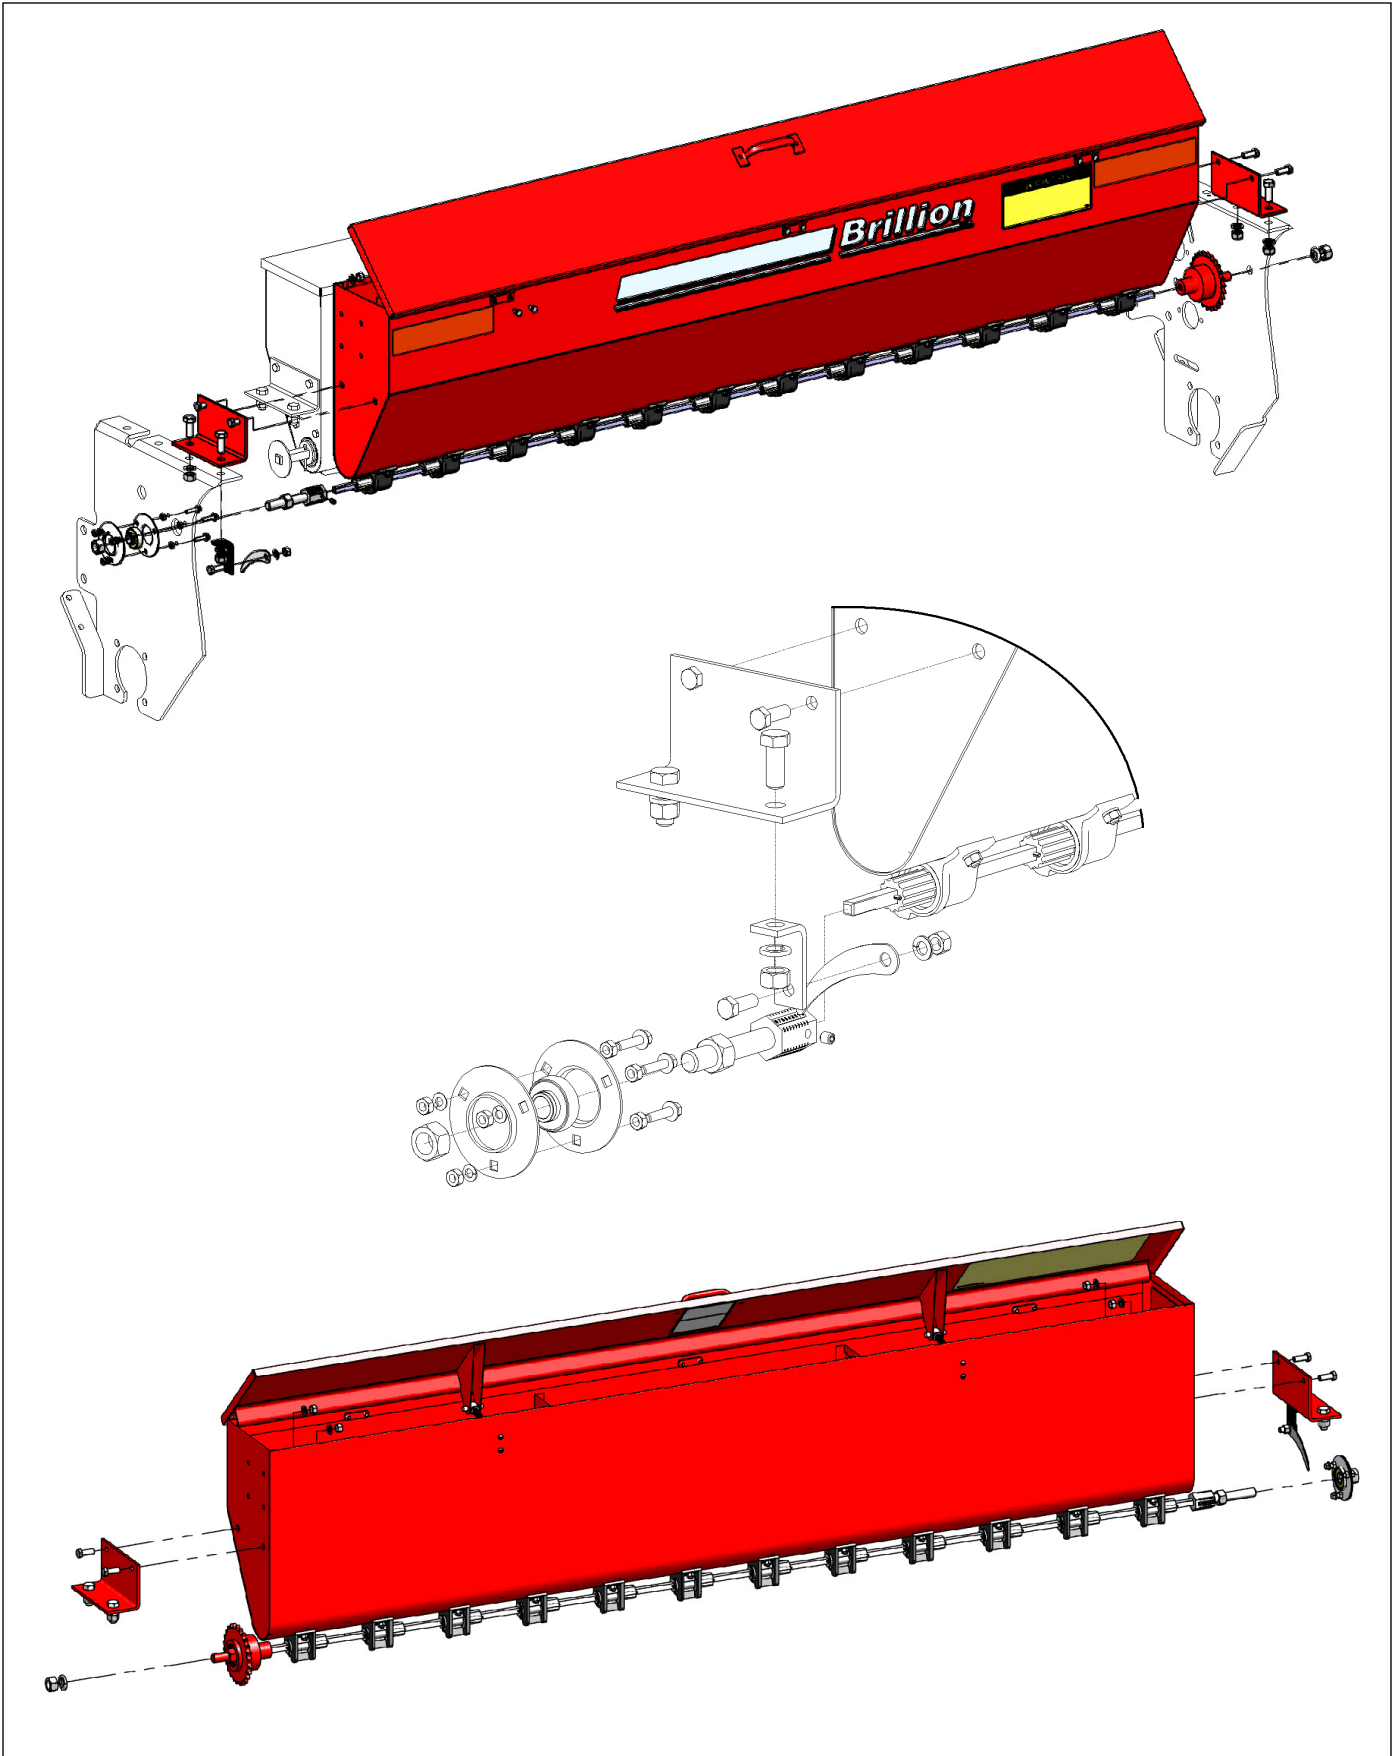

Figure 3-7: Meter Box Front and Rear View
1. Attach the mounting brackets to the sides of the box using four 3/8 - 16 x 1" capscrews, lock washers and hex nuts. **See Figure 3-7.**
16. Apply Amber Reflective Decal, Caution Decal and Brillion Decal to the Front of the Seedbox. **See Figure 3-7.**